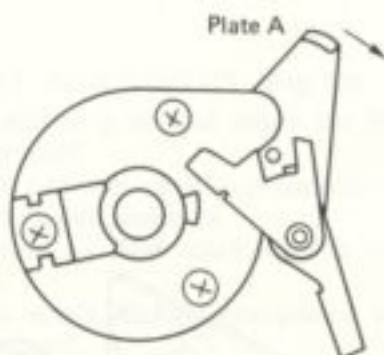

Fig. 39
2. Move plate A fully in direction shown by arrow in Fig. 39.